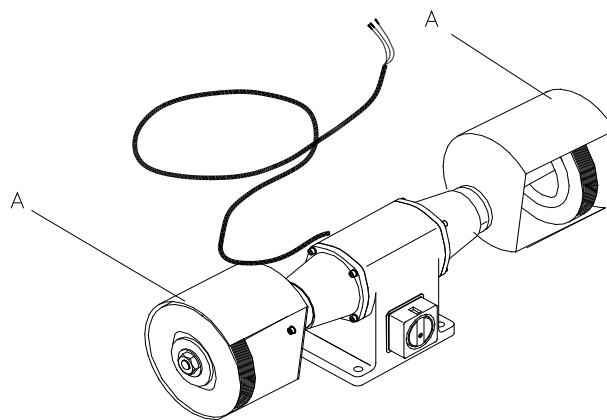

Fig.: 1.1
Before start operating please check if the polishing discs (A)(see *fig.: 1.1*) are firmly secured to the rotor. The polishing disc is mounted when the machine is disconnected. The polishing disc (A) must rotate freely without being loose. Checks and adjustments are only to be performed when the machine is disconnected.